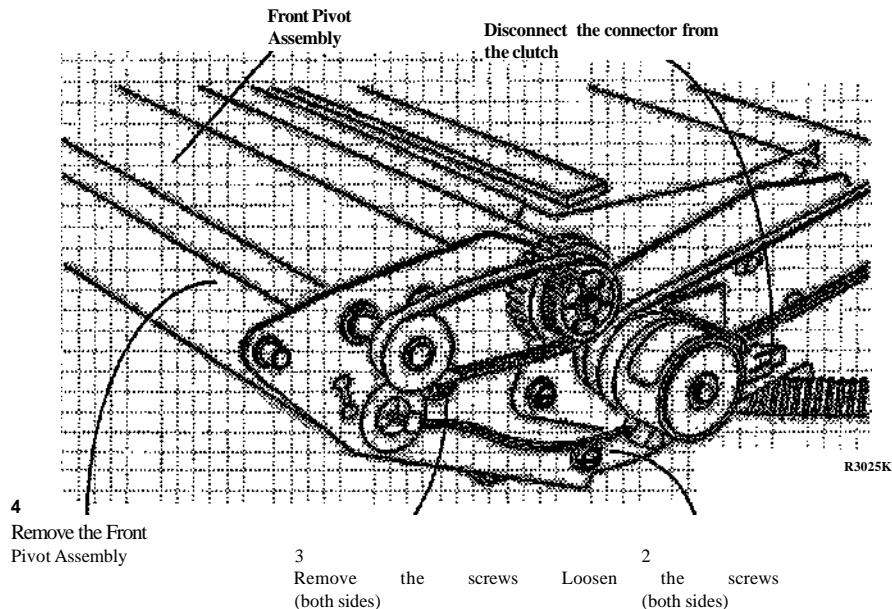

Figure 1. Removing the Front Pivot Assembly
4. (Figure 1): Remove the Front Pivot Assembly.